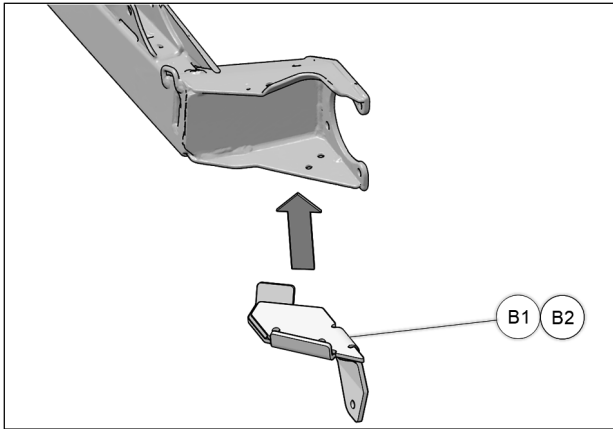

Fig. 4
4. Position anchor bracket (B1-B2) under rear suspension trailing arm, behind wheel hub. See Fig. 4